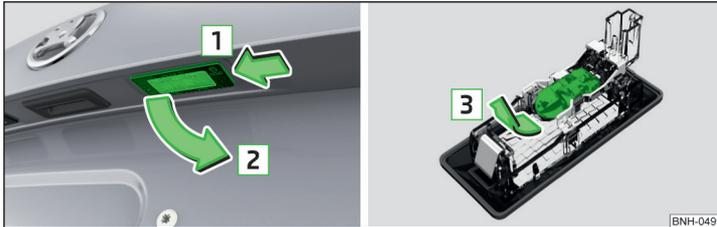

Fig. 159 Remove the number plate light/replace the bulb
- › Push in the lamp in the direction of the arrow **1** » Fig. 159.